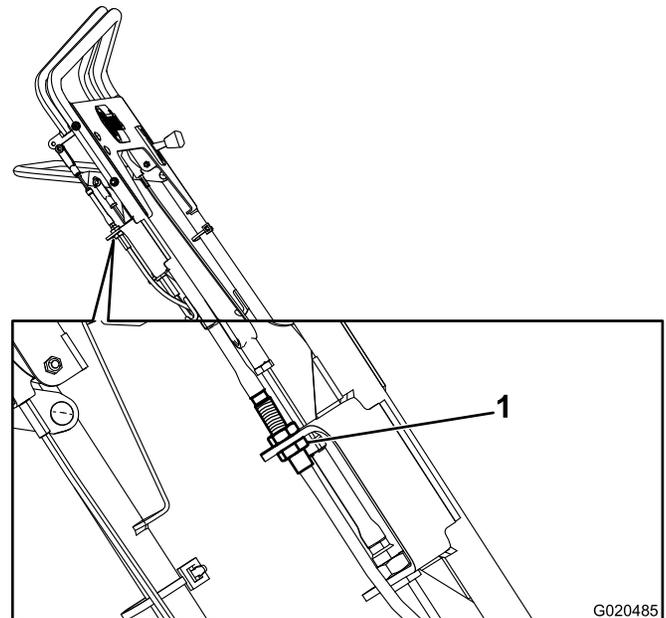

Figure 31
- Loosen and remove the linkage adjustment from the bracket (Figure 31).
- Move the lower nut to the end of the thread (Figure 31).